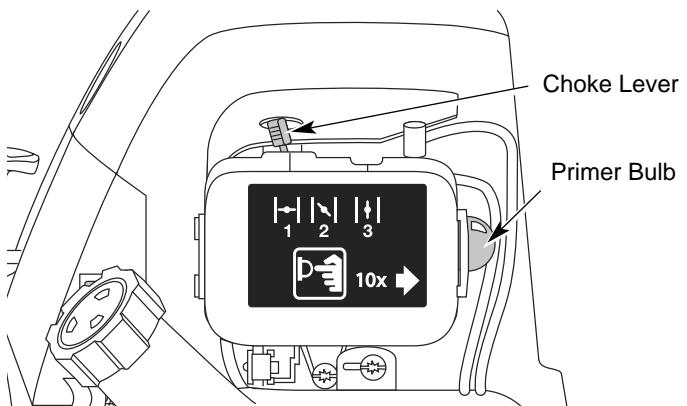

Fig. 7
4. Fully press and release the primer bulb 10 times, slowly. Some amount of fuel should be visible in the primer bulb and fuel lines (Fig. 7). If you cannot see fuel in the bulb, press and release the bulb as many times as it takes before you can see fuel in it.
5. Place the choke lever in Position 1 (Fig. 7).